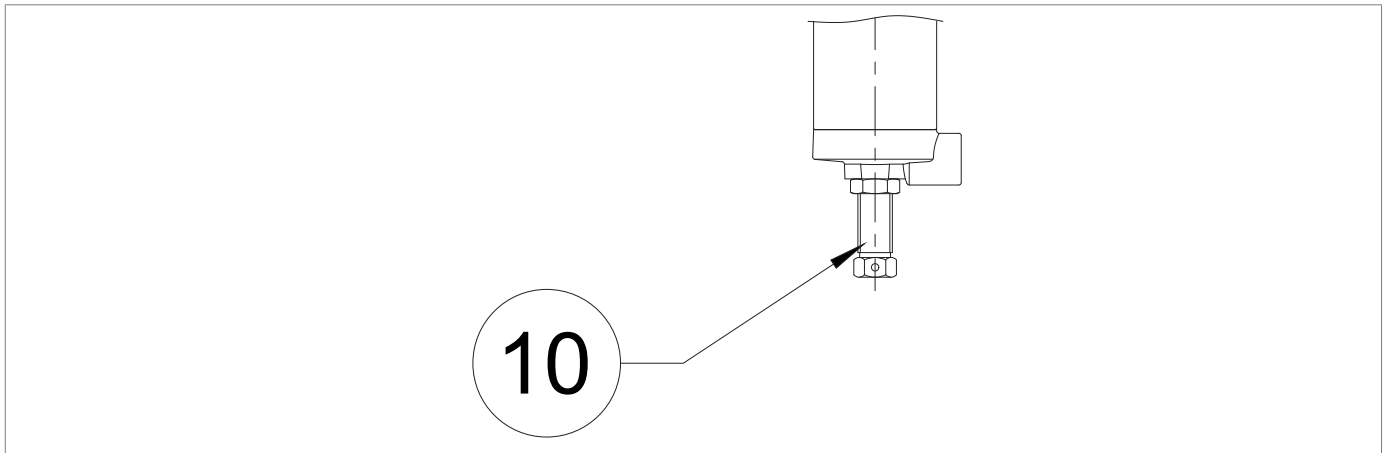

Fig. 8.37. 200/A/FO and 200/A series pilots
12	<p>a - FOR INITIAL COMMISSIONING OF THE REGULATION LINE</p> <p>If the pressure downstream (Pd) is not at the required calibration value, proceed as follows:</p> <ul style="list-style-type: none"> <li>value of the downstream pressure (Pd) is lower than the required calibration value: load the pilot calibration spring (3) by turning the adjustment screw Fig. 8.37(, ref.10) clockwise</li> <li>value of the downstream pressure (Pd) is higher than the required calibration value: unload the pilot calibration spring (3) by turning the adjustment screw (Fig. 8.37, ref.10) clockwise</li> </ul>
<p>b - AFTER MAINTENANCE OF THE REGULATION LINE</p> <ul style="list-style-type: none"> <li>load the pilot setting spring (3) by turning the adjustment screw, (Fig. 8.37, ref.10) clockwise to increase the regulator pressure value (1)</li> </ul>
12	<p>a - FOR INITIAL COMMISSIONING OF THE REGULATION LINE            If the pressure downstream (Pd) is not at the required calibration value, proceed as follows:</p> <ul style="list-style-type: none"> <li>• value of the downstream pressure (Pd) is lower than the required calibration value: load the pilot calibration spring (3) by turning the adjustment screw Fig. 8.37(, ref.10) clockwise</li> <li>• value of the downstream pressure (Pd) is higher than the required calibration value: unload the pilot calibration spring (3) by turning the adjustment screw (Fig. 8.37, ref.10) clockwise</li> </ul> <p>b - AFTER MAINTENANCE OF THE REGULATION LINE</p> <ul style="list-style-type: none"> <li>• load the pilot setting spring (3) by turning the adjustment screw, (Fig. 8.37, ref.10) clockwise to increase the regulator pressure value (1)</li> </ul>